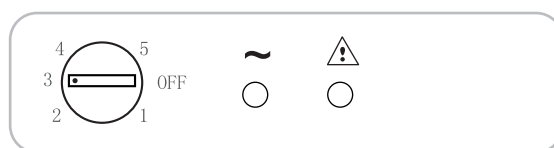

Fig. 9
1) Rotate the knob to the „0“ position (Fig .9)